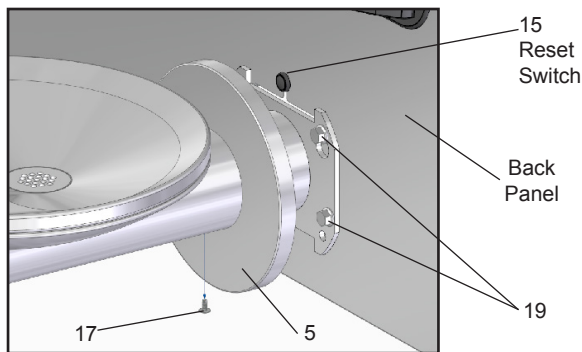

Figure 4A
7. **Install** reset switch for bottle filler (Fig. 4A). Snap the switch into position after locating wires through slot. Wrap up the excess cord.
- 1) To access the program button, remove #8-32 screw, pull back cover plate on fountain arm (Fig. 4A). Reset button is located above fountain arm.